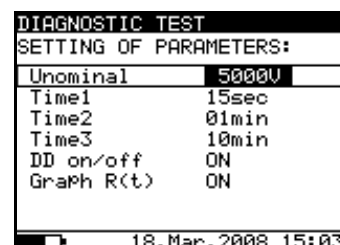

Fig. 18. Set-up menu in Diagnostic Test
- Press the **SELECT** key, (the Set-up menu appears on display, see the **Fig. 18**).